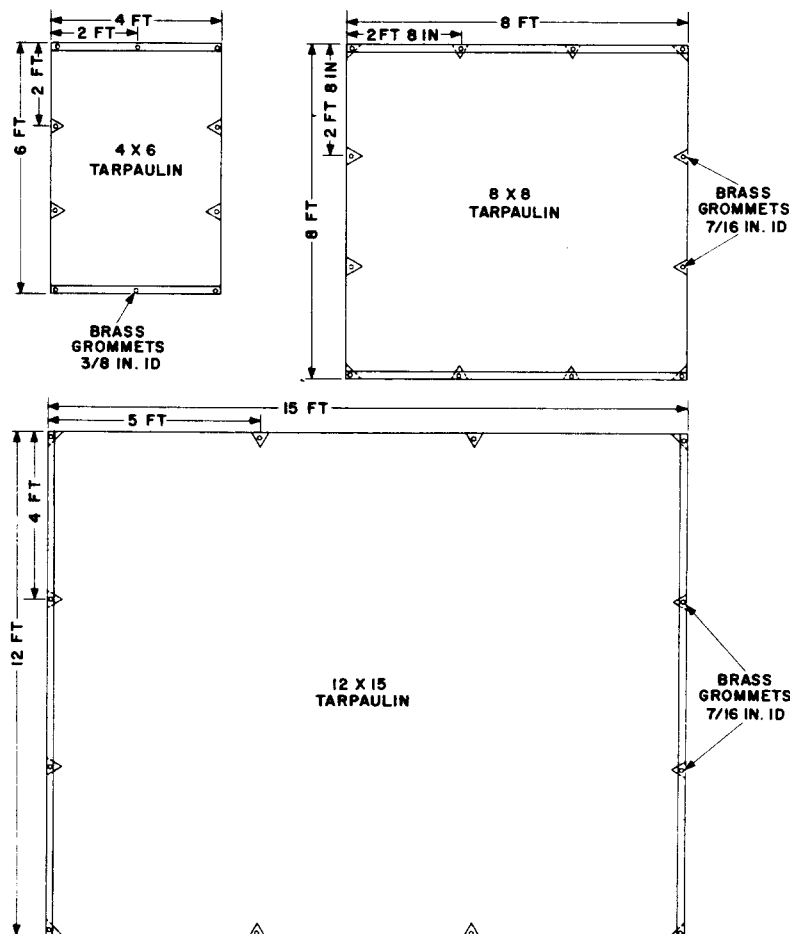

Fig. 1 — B Tarpaulins
2.02 The B Tarpaulins are available in sizes 4 by 6, 8 by 8, and 12 by 15 feet. Brass grommets (3/8 inch in diameter) are spaced every two feet on the border of the 4 by 6-foot tarpaulins. Each of the 8 by 8 and 12 by 15-foot sizes have twelve grommets (7/16 inch in diameter) spaced around the edges. The B Tarpaulins are illustrated in Fig. 1.